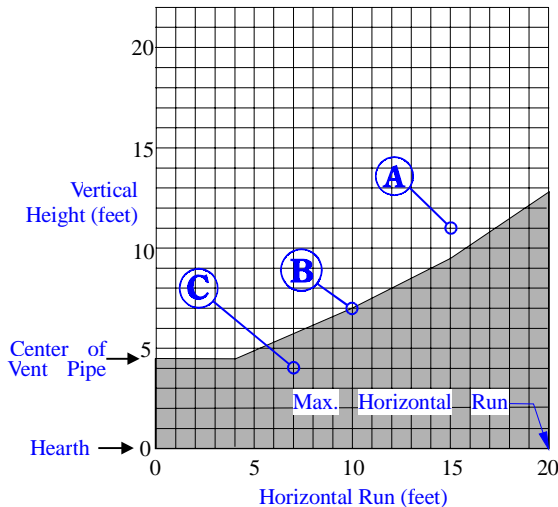

Figure 7. Venting Graph
- Venting runs *must* fall within the limits set by the venting graph (see Figure 7).